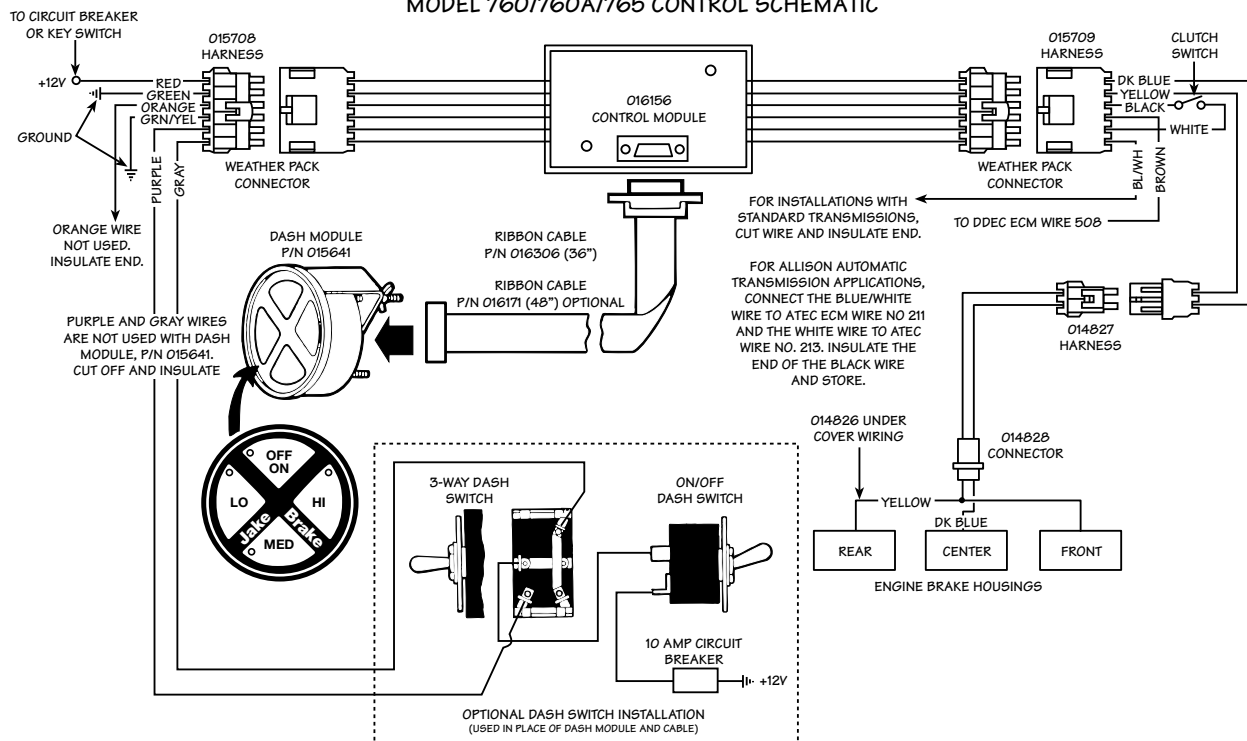

FIG. 4
**CHECK WIRING BEFORE TROUBLESHOOTING IS BEGUN (REFER TO FIGS. 4 AND 5).**
This procedure is used to troubleshoot the Jake Brake Models 760/760A/765 and 71/92A control module using selector toggle switches instead of the dash module. Refer to Figs. 4 and 5 for the following procedures.